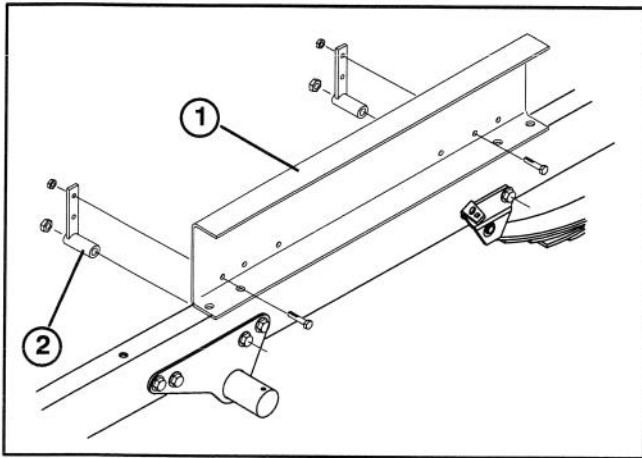

Figure 10
31. Install a new 1/2-13 x 3-1/2" lg. capscrew thru engine frame and vehicle frame. Insert a lift mounting bracket onto each new capscrew and loosely secure with locknut removed. Bracket to be positioned as shown in figure 10.
33. Install a new 1/2-13 x 3-1/2" lg. capscrew thru leaf spring mount and vehicle frame. Insert a lift mounting bracket onto each new capscrew and loosely secure with locknut removed. Bracket to be positioned as shown in figure 10.
35. Install a new 1/2-13 x 3-1/2" lg. capscrew thru leaf spring mount and vehicle frame. Insert a lift mounting bracket onto each new capscrew and loosely secure with locknut removed. Bracket to be positioned as shown in figure 10.